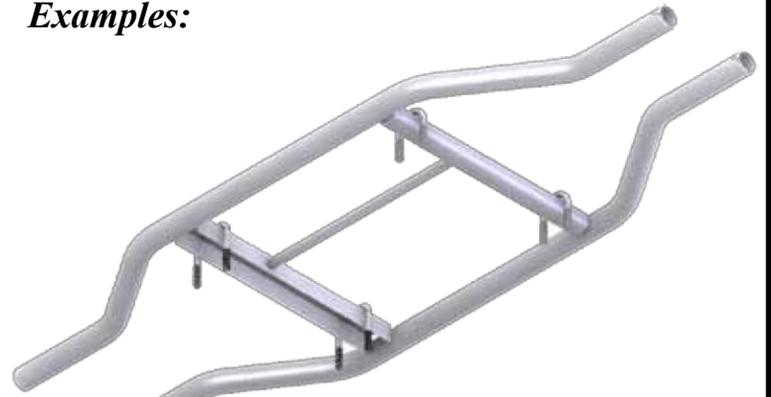

Figure 1
2. Find the U-Bolts that you need to fit the frame for the mounting straps that run along the frame locations. Examples shown in Figures 1 & 2.
3. Install the selected U-Bolts that fit your ATV, items #13, #14, #15, or #16 onto the frame tubing. Examples shown in Figures 1 & 2.